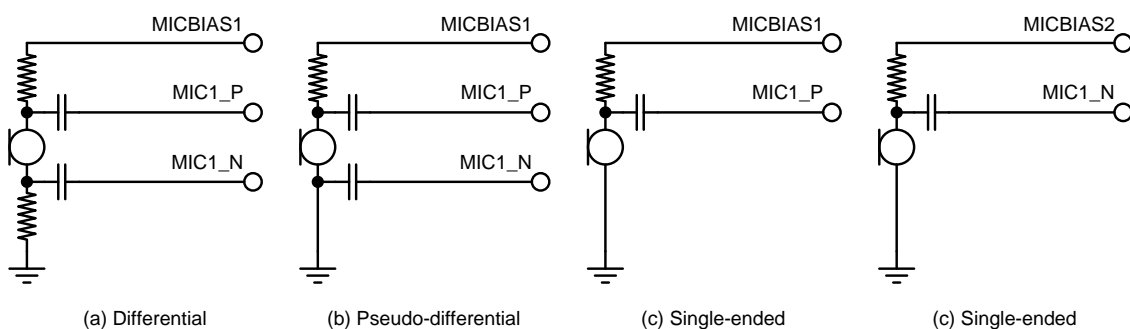

Figure 7. Typical microphone application for MIC1 (MIC2 is similar)
- Single ended or Pseudo-differential mode by connecting MIC1_N or MIC2_N to GND (see Figure 7). The microphone source is specified using MIC_1_AMP_IN_SEL and MIC_2_AMP_IN_SEL
- Single ended or Pseudo-differential mode by connecting MIC1_P or MIC2_P to GND (see Figure 7). The microphone source is specified using MIC_1_AMP_IN_SEL and MIC_2_AMP_IN_SEL
Single channel and dual channel digital microphone modules are supported. The dual channel modules change the output data on both the rising and the falling edges of the clock, as illustrated in Figure 7. In this case DMIC_SAMPLEPHASE must be set to zero in order to enable the sample detection at the edges of the clock. Each DMIC input is enabled via DMIC_L_EN / DMIC_R_EN and is associated with a clock edge via DMIC_DATA_SEL control.